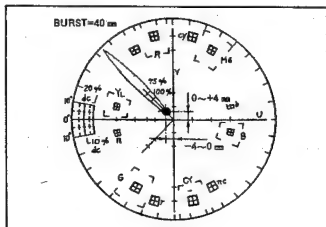

Fig. II-59
- (1) Shoot white chart with halogen lamp lighted.
- (2) Shift bright dot in direction of B-Y+ . (VR2654)
- (3) Turn VR2654 reversely to above direction until bright dot comes to the position in Fig. II-59.